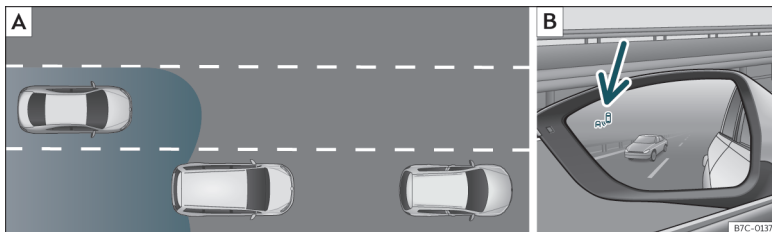

Fig. 222 Schematic diagram: [A] Passing situation with traffic behind the vehicle. [B] Indication from the blind spot detector in the left-hand external mirror.
The radar sensors are located on the left and right of the bumper and are not visible from the outside »» **Fig. 221**. The sensors monitor both the blind spot and traffic behind the vehicle »» **Fig. 222**, »» **Fig. 223**. The range to the sides of the vehicle is a bit larger than the width of a lane.
>>> **Fig. 222 [B]** (arrow) or >>> **Fig. 223 [B]** (arrow):
- When being overtaken by another vehicle >>> **Fig. 222 [A]**.